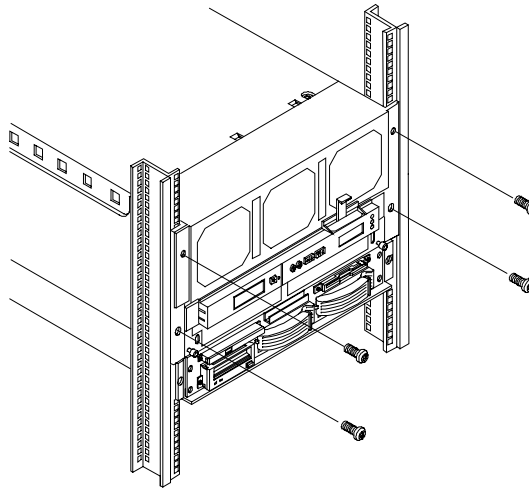

Figure 4-6. Securing the HP NetServer to the Columns
6. Install two screws through the two holes on either side of the HP NetServer front, as shown in Figure 4-6, and into the cage nuts in the columns (previously installed in Chapter 3).